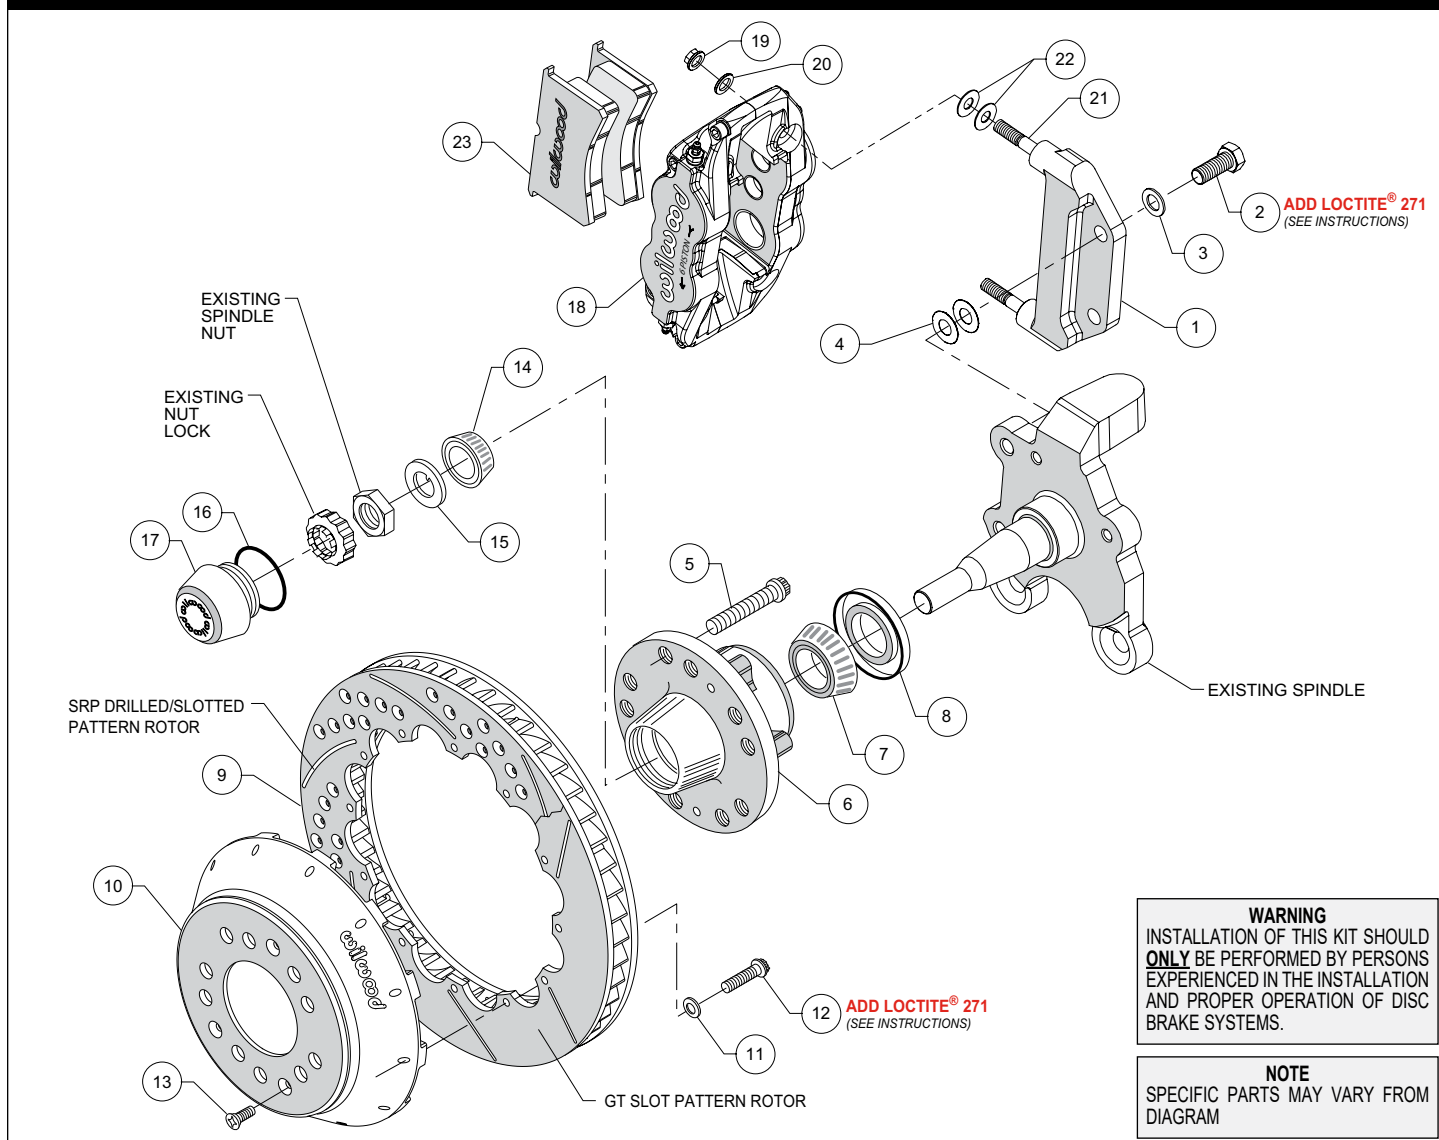
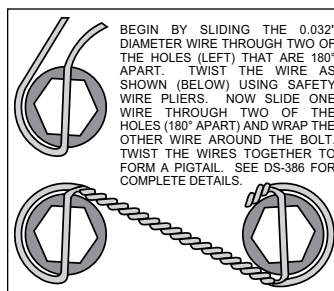

Figure 1. Typical Installation Configuration
Figure 3. Safety Wire Diagram
Assembly Instructions (numbers in parenthesis refer to the parts list on the preceding page, and Figure 1):
- The caliper mount bracket (1) should initially be installed with clean, dry threads on the mounting bolts. Orient the bracket as shown in Figure 1, and install using bolts (2) and washers (3). Initially place two .015" thick shims (4) on each bolt between the bracket and upright, Figure 1 and Photo 1. Temporarily tighten the mounting bolts. **NOTE: The bracket must fit squarely against the mount bosses on the upright.** Inspect for interference from casting irregularities, machining ridges, burrs, etc. Later, after the caliper alignment has been checked, the mount bolts will be secured using red *Loctite*® 271.
- Install the grease seal (8) by pressing into the backside of the hub (6), flush with the end of the hub, Photo 3.
- Orient the rotor (9) and the hat (10) as shown in Figure 1 and Photo 4. Attach rotor to hat using bolts (12) and washers (11). Apply red *Loctite*® 271 to the bolt threads and torque to 155 **in-lb** using a criss-cross pattern. For an added measure of security, the bolts may be safety wired using standard 0.032 inch diameter stainless steel safety wire as shown in Figure 3. Refer to Wilwood's data sheet DS-386 (available at www.wilwood.com/Pdf/DataSheets/ds386.pdf) for complete safety wire installation instructions.
•Slide the hat/rotor assembly (9/10) onto the hub (6) taking care to align the small countersunk holes in the hat (10) with the small threaded holes in the hub. **NOTE:** The hat must fit flush against the hub face or excessive rotor run out may result. Install three flat head screws (13) through the small holes in the hat (10), Photo 6, and torque to 85 in-lb.
•**NOTE:** This kit contains distinct right and left hand calipers that must be mounted in a specific direction, as described below. Initially place two .035" thick shims (22) on each stud (21) between the caliper and the bracket, as shown in Figure 1 and Photo 7. Mount the caliper (18) onto the bracket (1) using lock nuts (19) and washers (20), Figure 1. Ensure that the caliper is mounted so the largest pistons are at the rotor exit end of the caliper, in relation to the direction of rotor rotation. Temporarily tighten the lock nuts and view the rotor through the top opening of the caliper. The rotor should be centered in the caliper, Photo 8. If not, adjust by adding or subtracting shims (4) between the bracket and the upright. Always use the same amount of shims on each of the two mounting bolts. Once the caliper alignment is correct, remove the bracket mounting bolts one at a time, apply red *Loctite*® 271 to the threads, and torque to 65 ft-lb.